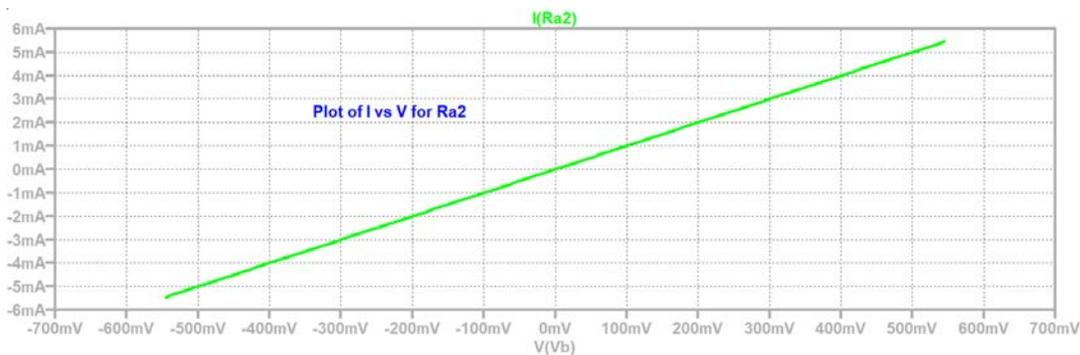

Figure A-5.
- The plot produced will show the i-v characteristic curve for resistor R1a2. Your plot should look something like Figure A-5: